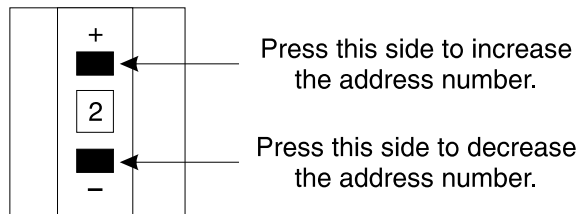

Figure 8-3: Setting the SCSI ID/Target Address
- a. Locate the target address switch on the rear panel of the SCSI device (see Figure 8-3).